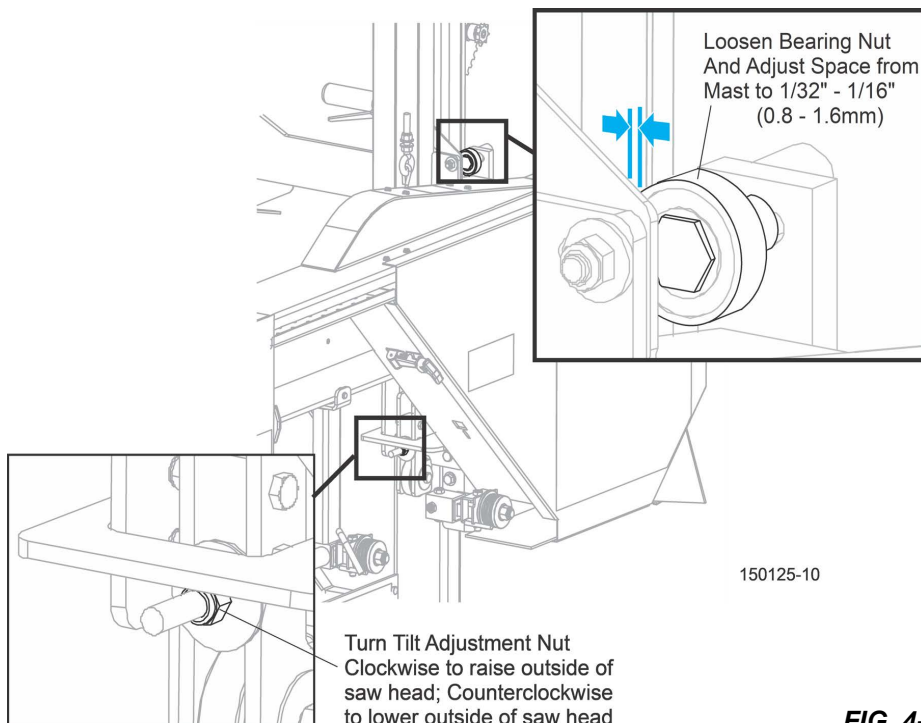

FIG. 4-2
3. After the saw head is adjusted parallel to the bed rail, check the space between the uppermost mast bearing and mast rail. Adjust as necessary so the space is $1/32'' - 1/16''$ (0.8 - 1.6mm). See FIG. 4-2.